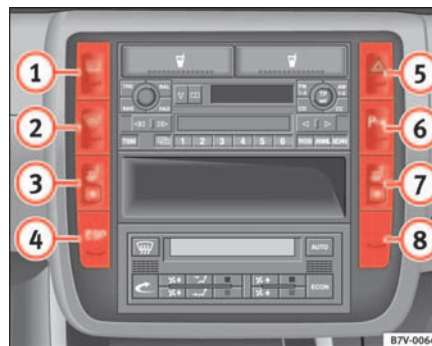

Fig. 73 Switch for hazard warning lights
2. Press button  ⇒ fig. 73 to switch on the hazard warning lights ⇒ .